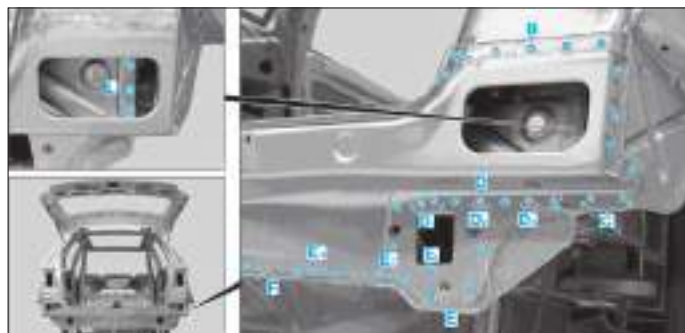

FIG. 112
- Fraiser les points de soudure (B), (C), (D), (D₁), (D₂), (D₃), (E), (E₁), (E₂), (E₃), (F) et (L) (Fig.112) et (Fig.114).